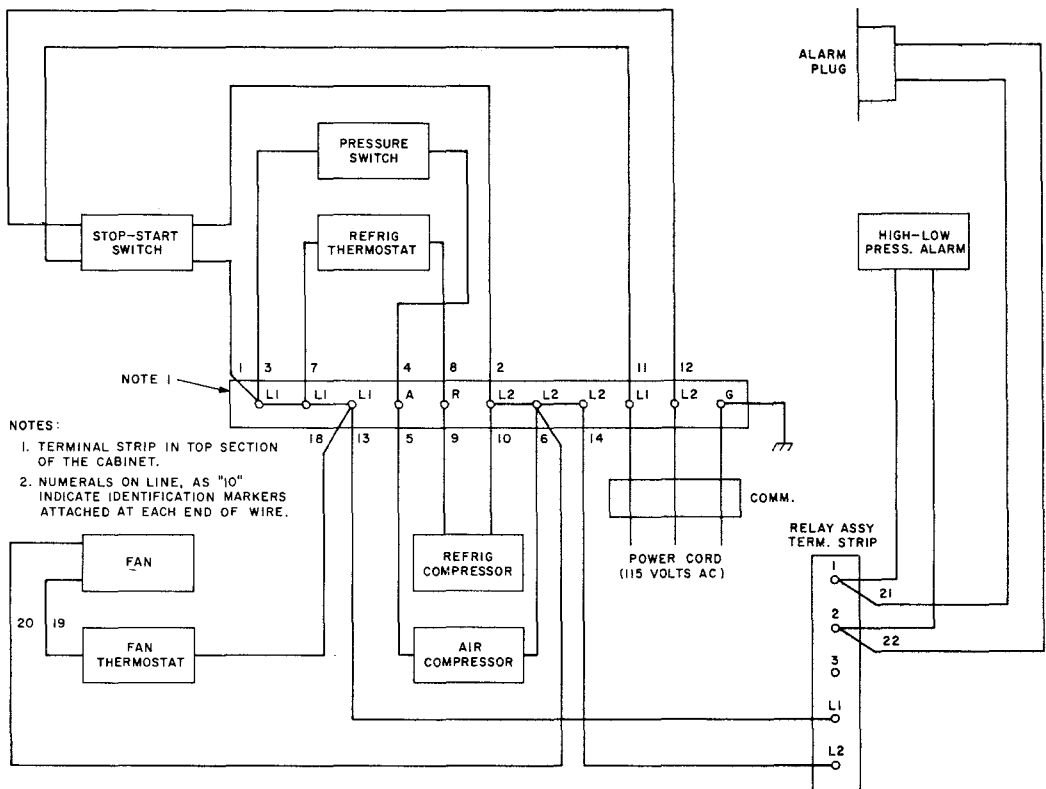

Fig. 2—Block Diagram of Electrical System
- (1) *Put on rubber gloves.*
- (2) Referring to Fig. 2 and 3, remove wire 21 from -1- binding post on the relay assembly terminal strip. This disconnects the high-low pressure switch from the circuit while the humidity alarm test is being made.
- (3) Connect a KS-8455 test set, using the ohmmeter circuit, to -1- and -2- binding posts of the relay assembly terminal strip. A full-scale deflection of the pointer indicates that the
- (1) Put on rubber gloves.
- (2) Using an approved ac voltmeter and referring to Fig. 2 and 3, check for 115 volts at the incoming power terminations L1 and L2 on the power strip. Check for 115 volts through the master stop-start switch by measuring across the L1 and L2 binding posts on the power terminal strip. Then, check the refrigeration thermostat by testing at the power terminal strip for 115 volts across R and L2 binding posts.
(b) Using an approved ac voltmeter and referring to Fig. 2 and 3, check for 115 volts first across the leads of the fan thermostat and then across the leads of the fan motor to determine which component is defective and must be replaced.
- (1) Check first for pressure switch trouble by bleeding air from the pressure-testing valve on the regulator or from the water drain valve. If lowering of the pressure causes the compressor to operate, adjustment or replacement of the pressure switch will be necessary [2.12(2)].
- (2) If lowering the pressure does not result in compressor operation, **turn off the master stop-start switch and disconnect the 3-conductor incoming power cord**, then check all power wiring connections. If no loose connection or broken wiring is found, **connect the incoming power cord and turn on the master stop-start switch**, and proceed as follows:
- (b) Using an approved ac voltmeter and referring to Fig. 2 and 3, check for 115 volts at the incoming power terminations L1 and L2 on the power terminal strip. Check for 115 volts through the master stop-start switch by measuring across the L1 and L2 binding posts on the power terminal strip. Then, as necessary, check the air compressor motor and the pressure switch by testing at the power terminal strip for 115 volts across the A and the L1 binding posts, and A and L2 binding posts, respectively. Replace the air compressor and motor or the pressure switch if found defective.